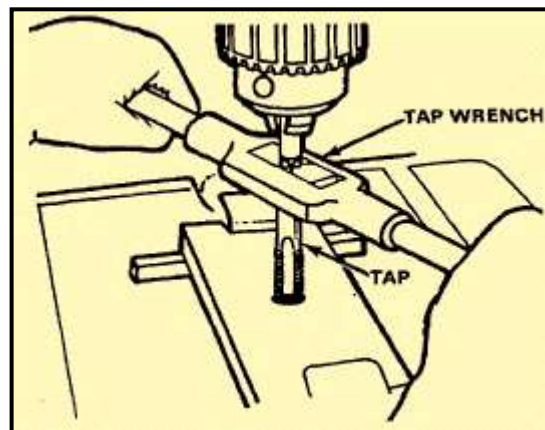

Figure 4-41. Tapping with an upright drilling machine
**Large Holes Tapping:** One method of hand tapping is to mount an adjustable tap and reamer wrench on the square shank of the tap and install a pointed tool with a center in the drilling machine spindle (Figure 4-41). The tap is placed in the drilled hole and the tool's center point is placed in the center hole. The tap is held steady, without forcing, by keeping light pressure on it with the hand feed lever of the drilling machine, while turning the wrench and causing the tap to cut into the hole.